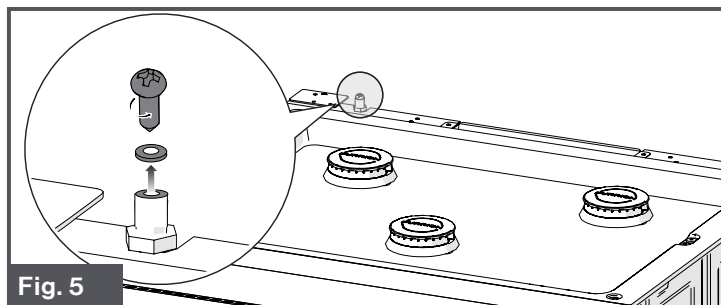

Fig. 5
4. Remove the Screw with the sealing gasket from the pressure test port on the range. (Fig. 5)